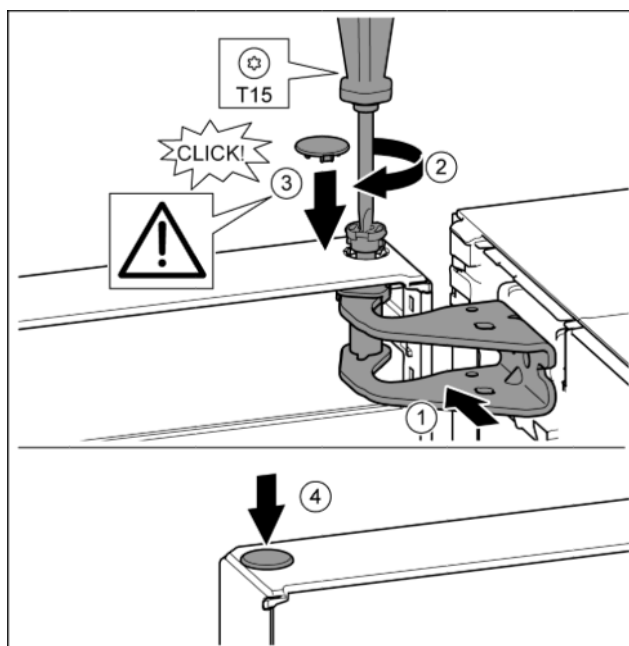

Fig. 15
- Align top of door with aperture in mounting block. Fig. 15 (1)
- Insert the bolt and tighten with a T15 screwdriver. Fig. 15 (2)
- Fit protective cover to protect the door: Insert the protective cover and check that it is attached to the door. If not, insert the bolt fully. Fig. 15 (3)
- Insert the plugs. Fig. 15 (4)